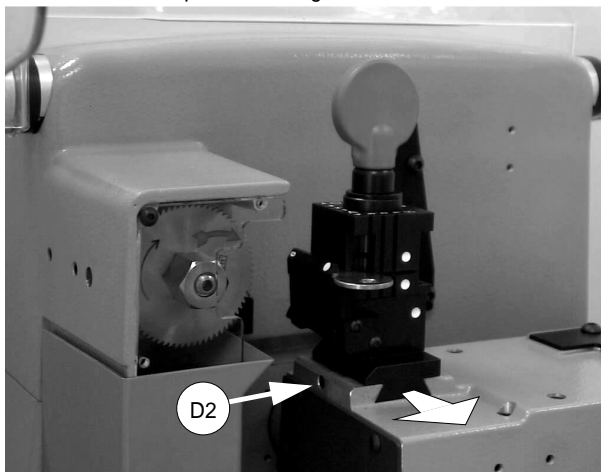

Fig. 16
- loosen the grub screw (D2) (fig. 16) and slide the vise jaw out of the dovetail guide.